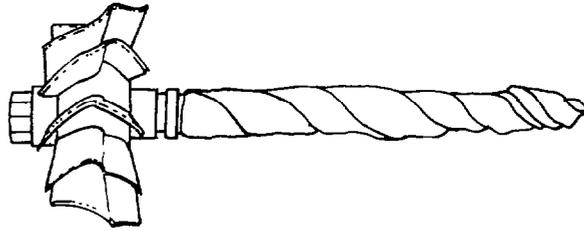

Fig. 143 — Masking Turbine Wheel Shaft
2. Protect the shaft with masking tape (see fig. 143).